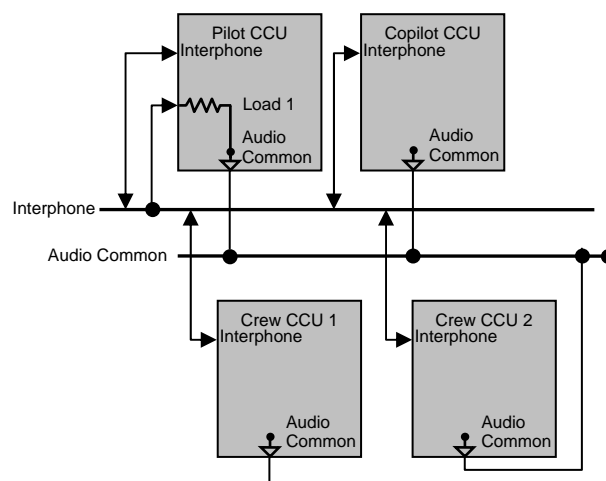

Figure 1 – Interphone audio
1. Interphone audio – Each CCU is a receiver and transmitter over the same wires. (Fig 1)